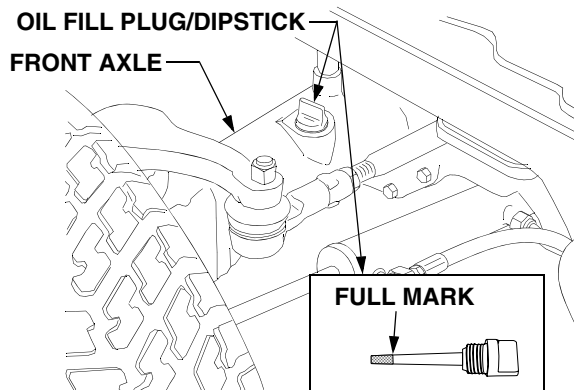
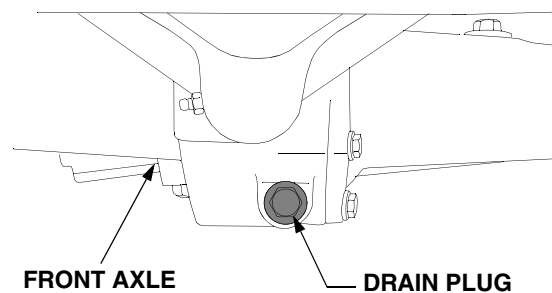

Figure 47
Figure 49
- The oil fill plug/dipstick is located on the *left* side of the axle housing. See Figure 47.
- Clean the area around the oil fill plug/dipstick to prevent debris from entering the axle housing. See Figure 47.
- Withdraw the dipstick and wipe it clean, then reinsert and screw in all the way. Unscrew and withdraw again to read the oil level. Always keep the oil level between the bottom and the full mark of the dipstick (See Figure 47).
- To prevent debris from entering the front axle housing, clean the area around the oil fill plug/dipstick and the axle drain plug located at the center front of the axle. Refer to Figure 47 and Figure 49.
- Remove the oil fill plug/dipstick to help vent the axle, then remove the drain plug and allow the oil to drain into the container. Reinstall the drain plug after draining the oil. See Figure 49.